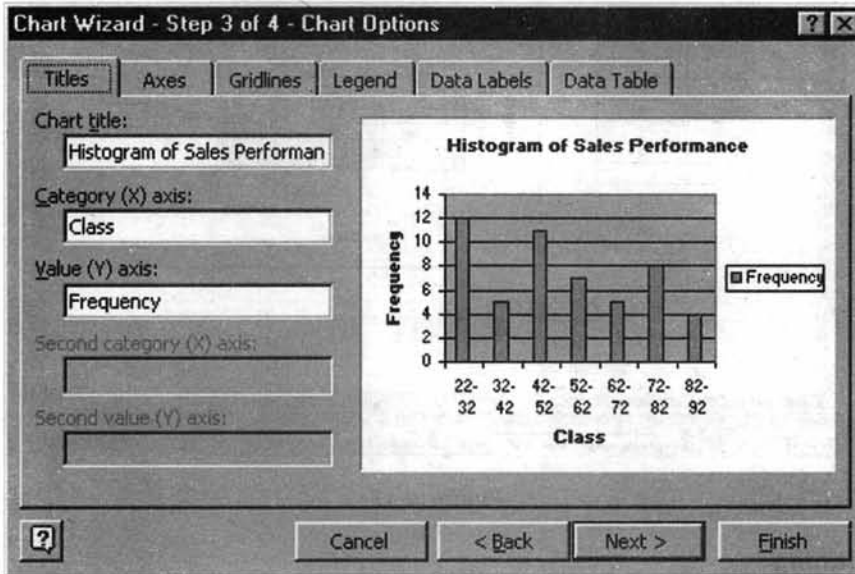

Figure 2.15
- Step 5** Click Next. You get the **Chart Option** menu. Enter a suitable title for the problem as well as titles for X-axis and Y-axis. The figure 2.15 will appear. As you can see, we have given a chart title, "Histogram of Sales Performance", X-axis title as "Class", and Y-axis title as "Frequency".